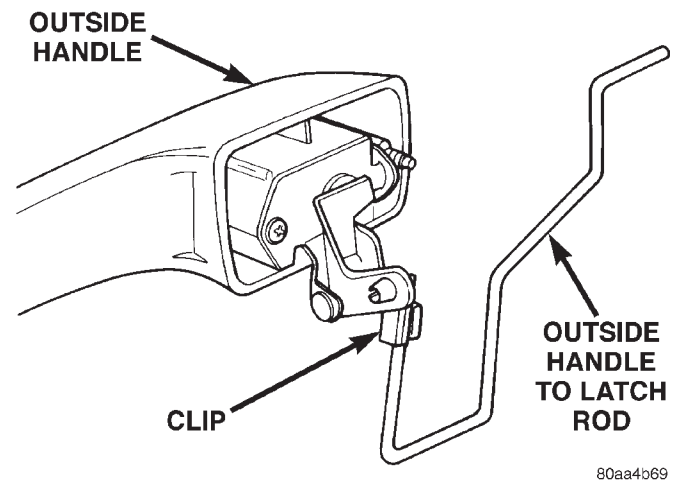

Fig. 51 Latch Rod
- (7) Disconnect the handle-to-latch rod from the handle latch release lever arm (Fig. 51).